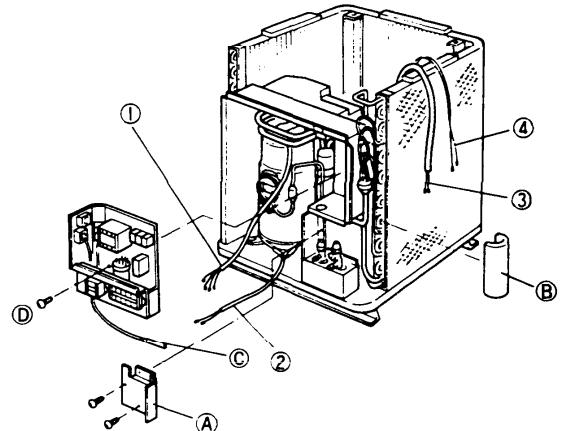

Fig. 8
- ① Compressor wire
- ② Crankcase heater wire
- ③ 4-way valve wire
- ④ Pressure switch wire
- ① Remove the cover plate ④.
- ② Remove insulation ③. Loosen and remove the sensor ⑤.
- 3) The electrical component box can now be removed by unscrewing one screw ⑥. Fig. 8